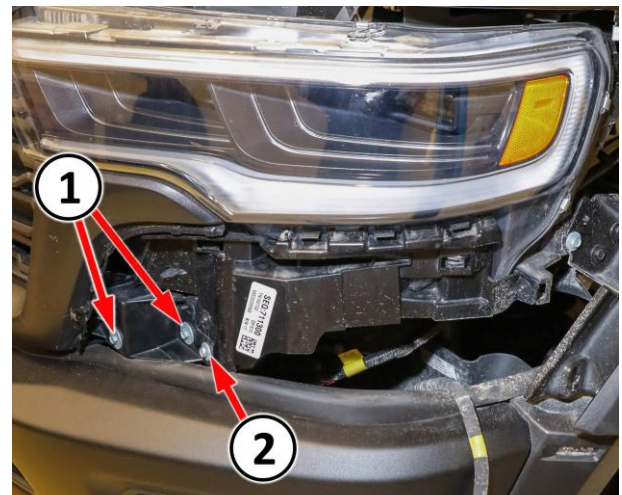

Figure C10 – Lower Grille Carrier
14. Remove the lower fasteners from each side of the grille assembly (Figure C10).
- **DISCARD** the bolts removed from positions (1) on each side (Figure C10).
- Retain the bolts removed from positions (2) on each side (Figure C10).
28. Install **NEW** bolts in positions (1) and reuse the bolt in position (2) on each side of the grille assembly then tighten the bolts to 5 N·m (44 In. Lbs.) (Figure C10).